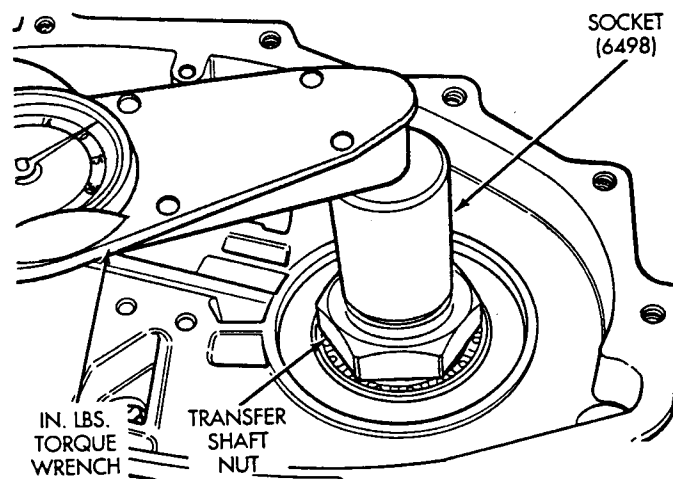

Fig. 35 Checking Turning Torque
(40) Check the turning torque of the transfer shaft using a torque wrench (Fig. 35). The turning torque should be 0.5 to 1.3 N•m (5 to 12 in. lbs.). If the turning torque is too high, install a thicker transfer shaft preload shim. If the turning torque is too low, install a thinner transfer shaft preload shim.